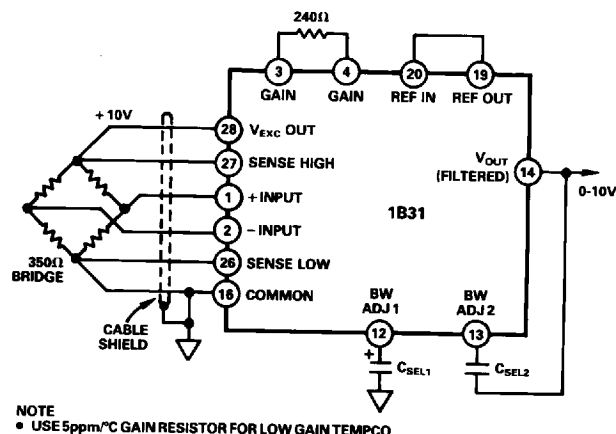

Figure 3. Narrow Bandwidth Application
**Filter Cutoff Frequency Programming:** The low pass filter cutoff frequency is internally set at 1kHz. It may be decreased from 1kHz by the addition of two external capacitors connected as shown in Figure 3 (from Pin 12 to common and between Pins 13 and 14). The values of capacitors required for a desired cutoff frequency,  $f_c$ , below 1kHz are obtained by the equations below: